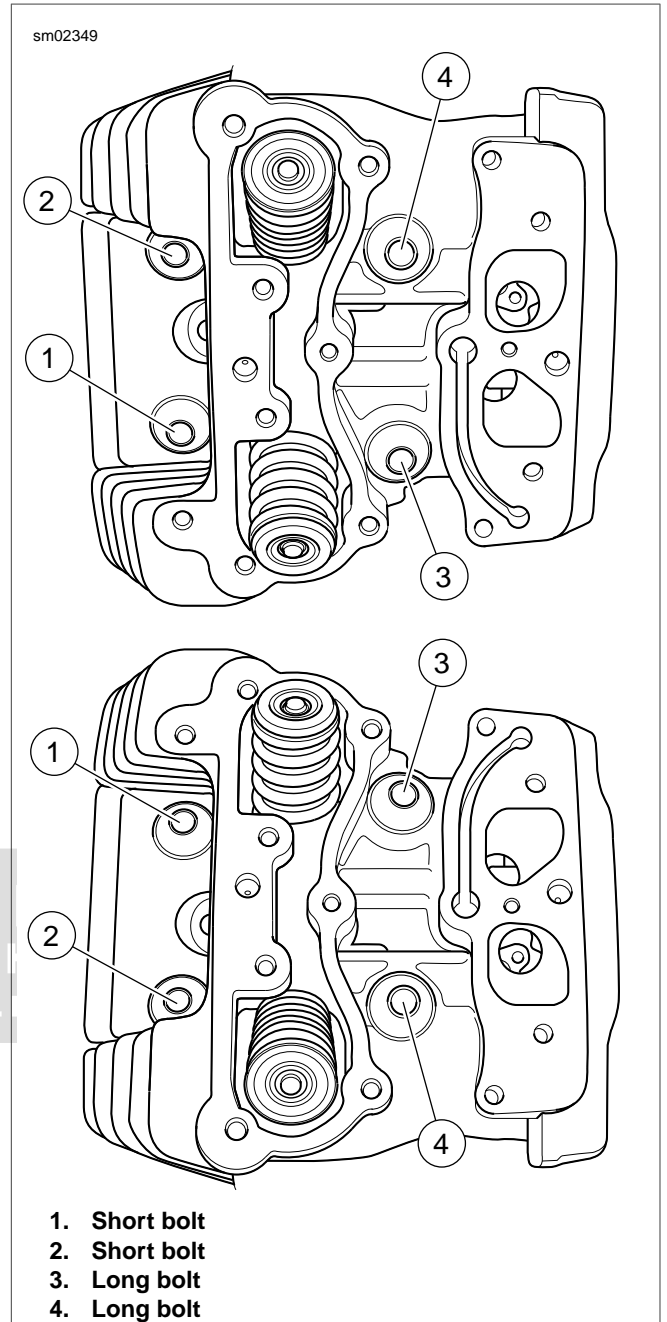

Figure 3-35. Cylinder Head Bolt Torque Sequence (Top: Front Cylinder Head, Bottom: Rear Cylinder Head)
4. See Figure 3-35. Loosely install the cylinder head bolts onto the cylinder studs. Place two short bolts on the left side of the engine and two long bolts on the right.
- e. Using the marks as a guide, turn each bolt 1/4 turn or 90 degrees. Be sure to tighten the cylinder head bolts in the sequence shown in Figure 3-35.